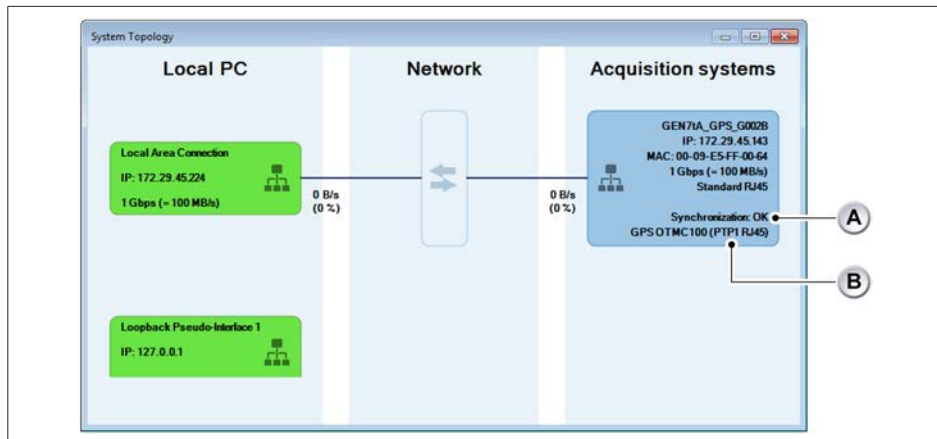

Fig. 14.21 System Topology
2. The **System Topology** overview opens (see Fig. 14.21):
- B States that **GPS OTMC 100** is connected as selected (PTP1 RJ45 for RJ45 connection as shown in Fig. 14.21, **PTP2 SFP** if you are using the optical Ethernet connection).